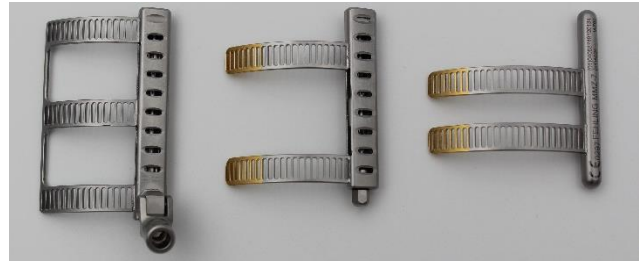

Fig. 22
3. The instrument disassembled into its individual parts (Fig. 22) can now be reconditioned.